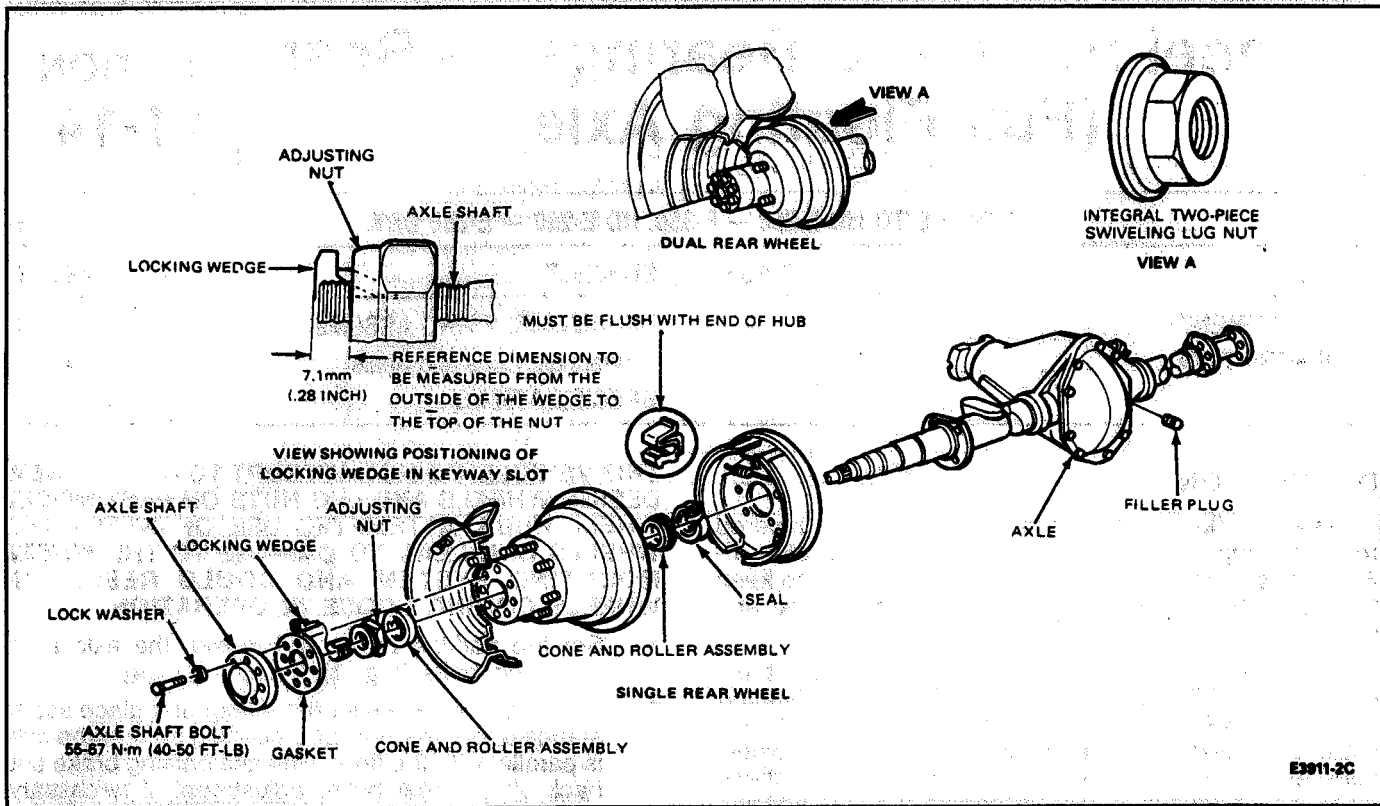

FIG. 1 Rear Wheel Hub—Dana Full-Floating Axle HD F-250—F-350, HD E-250—E-350
On all full-floating rear axle wheel hubs with tapered roller bearings, HD F-250—F-350 and HD E-250—E-350, a seal is installed behind the inner bearing to keep the wheel bearing lubricant from the brake lining and brake drum (Figs. 1 and 2).
1. Set the parking brake and loosen the axle shaft attaching bolts (Fig. 1).